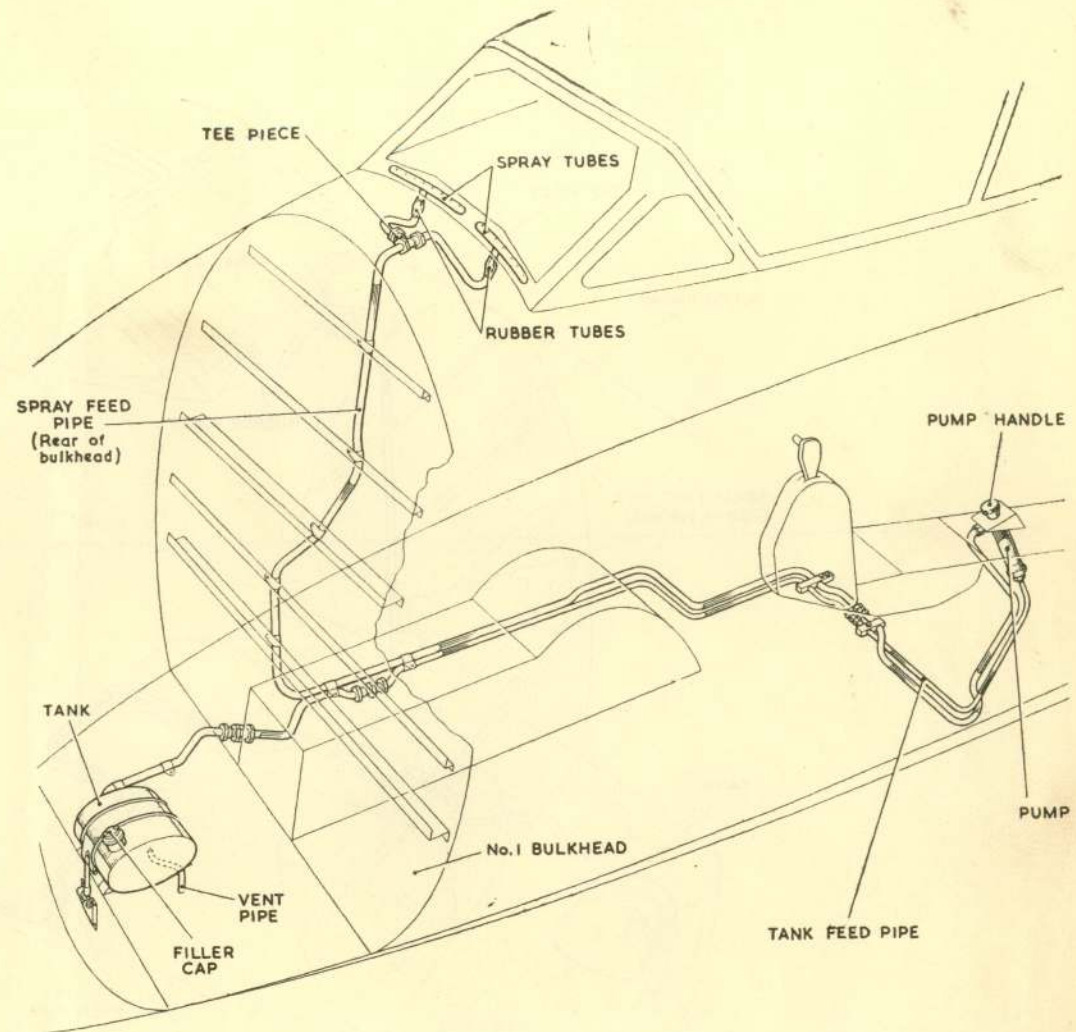

Fig. 1. Windscreen de-icing (early aircraft)
1. The equipment for de-icing the outside of the windscreen consists of two spray tubes fitted at the base of the windscreen, a hand pump mounted above the nose wheel well and a fluid supply tank forward of No. 1 bulkhead. The installation of the equipment is illustrated in fig. 1 and 2. Details of the fluid specification and the capacity of the reservoir are given in the Leading Particulars.